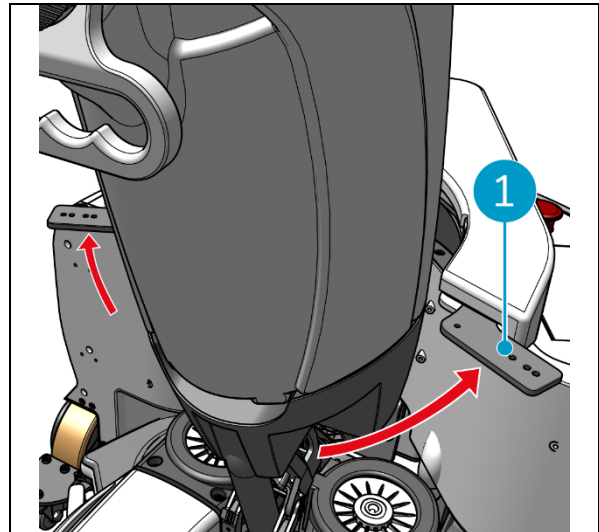

Figure 40
1. Unlock the fix ring of the i-walk (Figure 40, pos. 1).